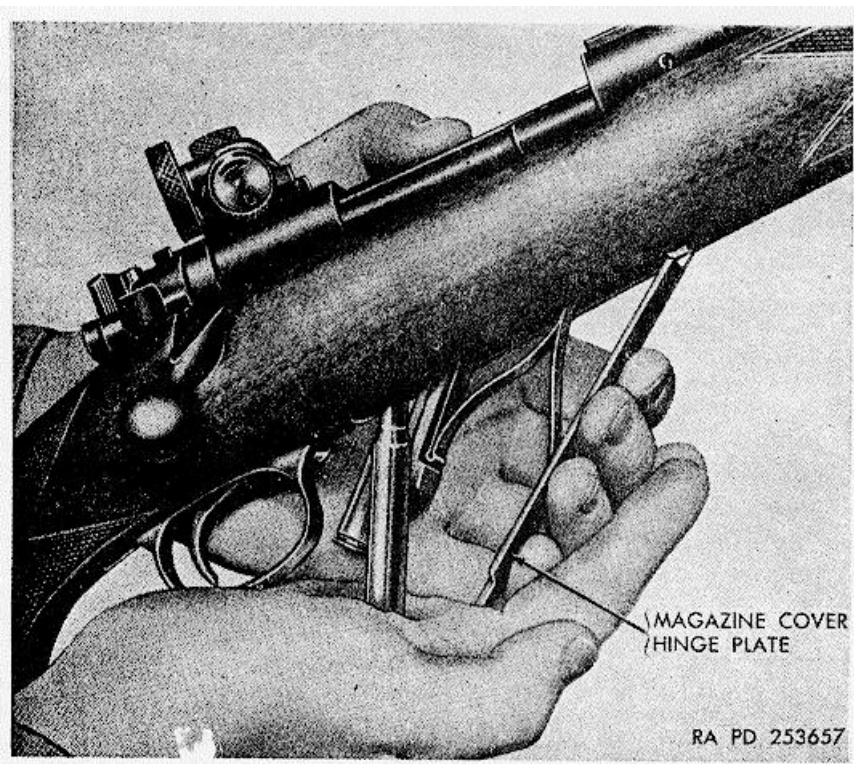

Figure 39. Unloading cartridge from magazine (Winchester rifle model 70).
- (1) Place safety lock to FULLY ON position (par. 15e).
- (2) Depress magazine cover catch and open magazine cover to remove cartridges (fig. 39) remaining in magazine.
- (3) Place safety lock on INTERMEDIATE position (par. 15e).
- (4) Remove any cartridge remaining in